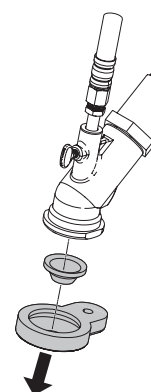

Fig. 11
2. Remove spray gun tip and retainer. (Fig. 11)